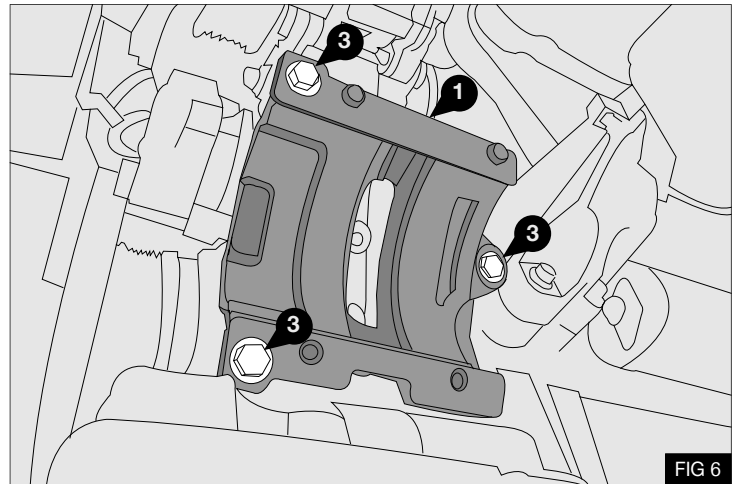

FIG 6
1. Install the supplied compressor mount bracket (1) using the three supplied bolts (3) M8 x 30 - Fig.6
2. Torque bolts (3) to 25Nm / 18lb.ft. using a calibrated torque wrench.